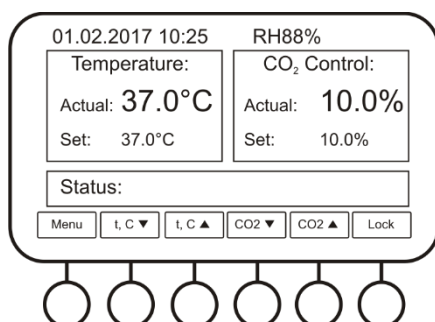

Fig. 1. Working screen
- 4.2. After initialization, display (fig. 1) shows: